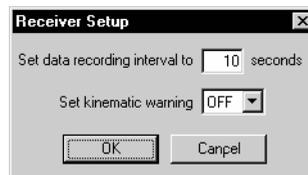

Figure 4.10. Receiver Setup Dialog Box
3. Ashtech Download queries the receiver recording interval and displays it in the **Receiver Setup** dialog box (Figure 4.10).